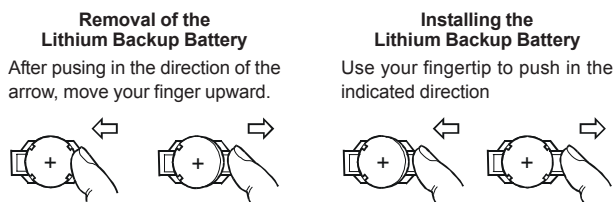

FIGURE 4
8. Follow the guidelines in Figure 4, and remove the old battery, replacing it with a new one of the identical type.